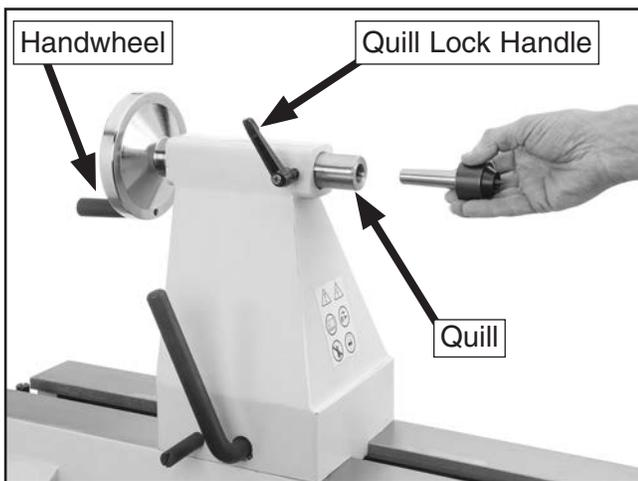

Figure 24. Installing center into tailstock quill.
1. Loosen quill lock handle, and rotate handwheel until quill extends about 1", as shown in **Figure 24**.
3. Firmly insert tapered end of center into tailstock quill, as shown in **Figure 24**.